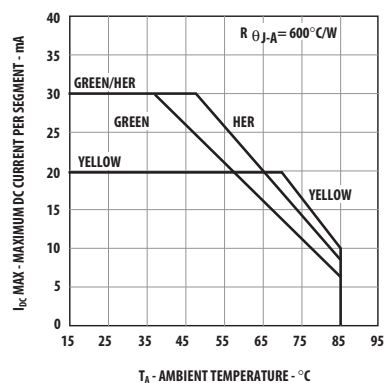

Figure 9. Maximum Allowable DC Current vs. Ambient Temperature. $T_{JMAX} = 100^{\circ}$ C.
6. Derate maximum DC current for HER above $T_A = 48^\circ\text{C}$ at 0.58 mA/°C, Yellow above $T_A = 70^\circ\text{C}$ at 0.66 mA/°C, and Green above $T_A = 37^\circ\text{C}$ at 0.48 mA/°C. See Figure 9.